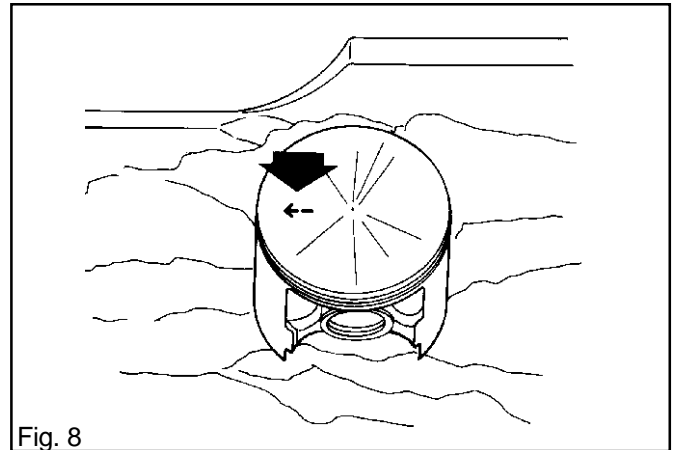

Fig. 8
2. Replace the piston with the arrow facing the exhaust port. See fig.8. Slide in the gudgeon pin and fit the circlip